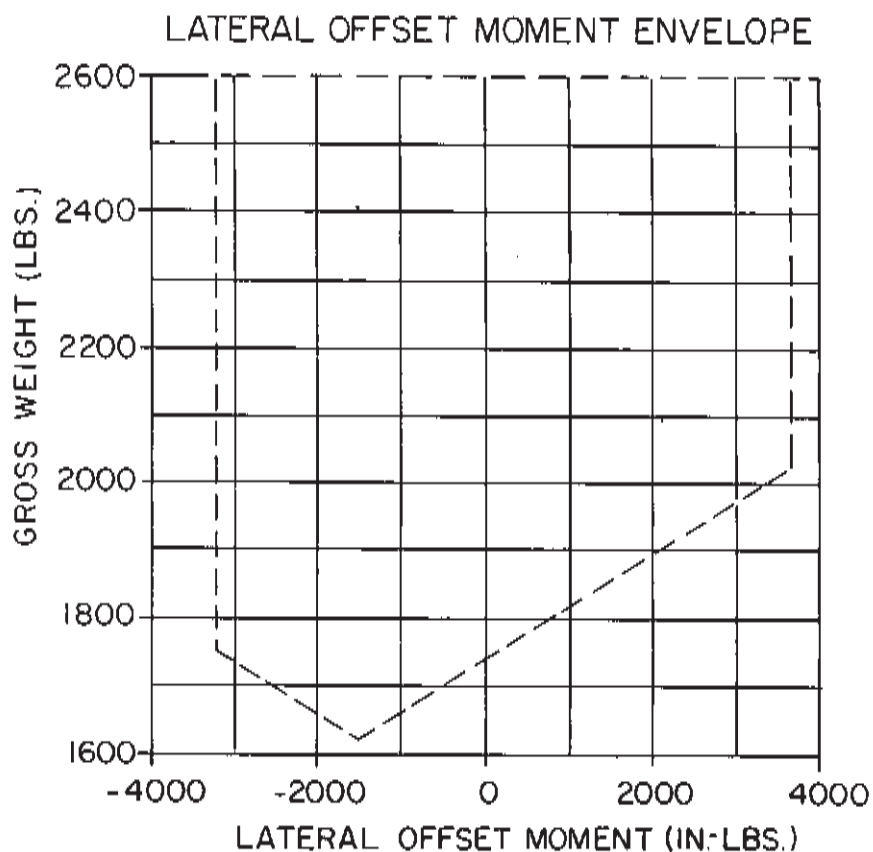

Figure 5-2
- (3) Lateral offset moments variable with gross weight from -3250 in-lb to +3700 in-lb. See Figure 5-2.
Plot 2350 lbs and +1610 in-lbs on Figure 5-2 to assure moment is in approved area.